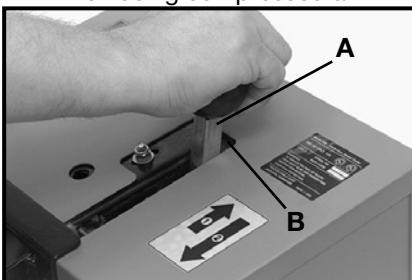

Fig. 21
5. Grasp knob and push operating lever (A) Fig. 21, forward (in direction of arrow #1) until it hits the forward stop (B) Fig. 21.